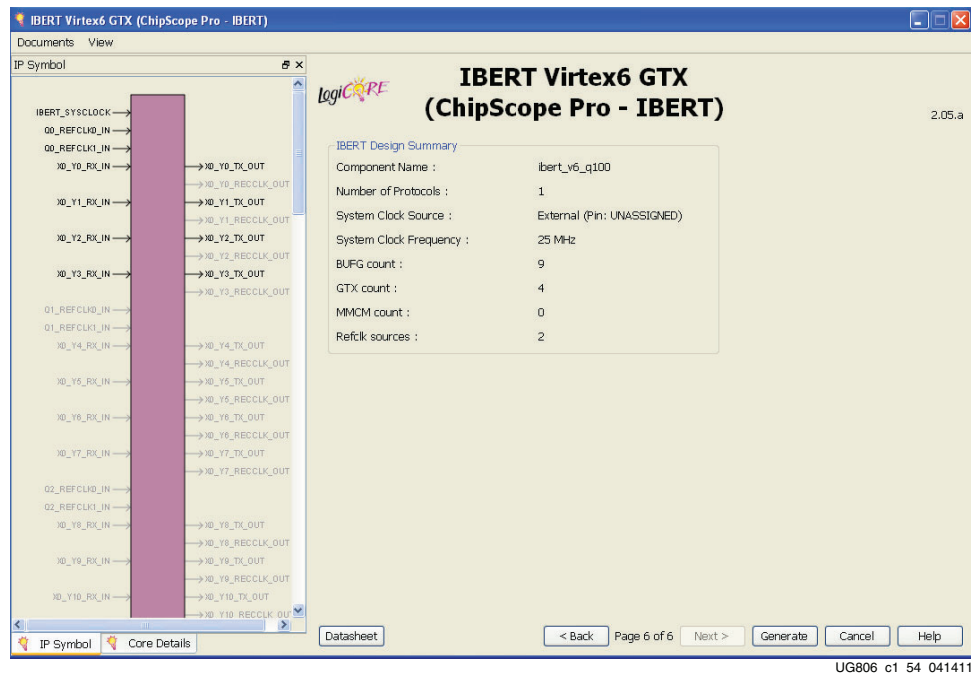

Figure 1-54: CORE Generator - IBERT GTX Customization - Page 6
- Verify the information shown in Figure 1-54, then click **Generate**.